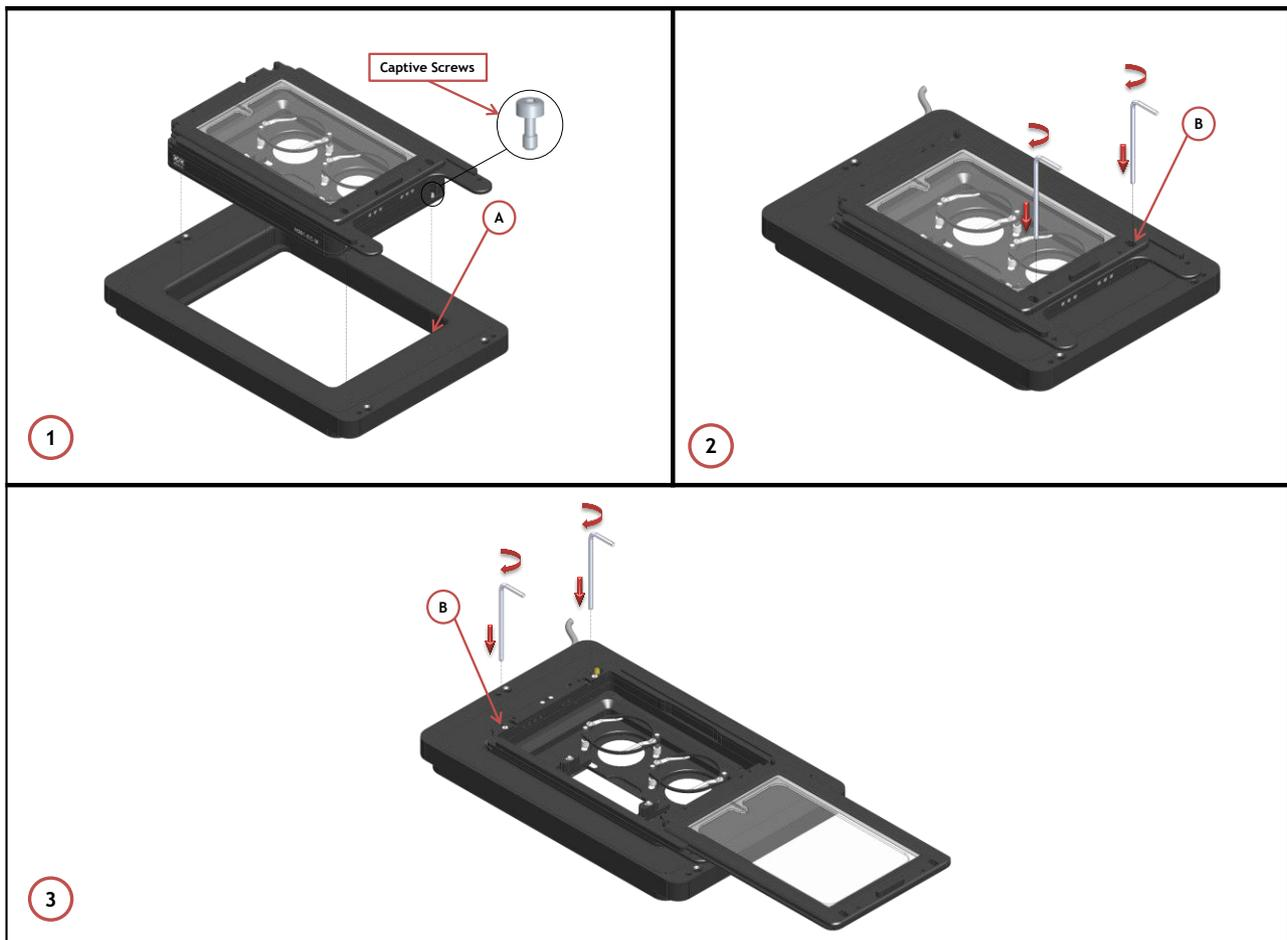

Figure 23. Connection of the Chamber with Galvo Stage
1. Follow the steps shown in the images of Figure 23 and listed below in order to correctly connect the chamber with Z piezo stage.
2. Place the chamber on the stage and tighten 2 captive screws (See Image 2 Figure 23). Captive screws housings are indicated with letter B in Image 2 of Figure 23